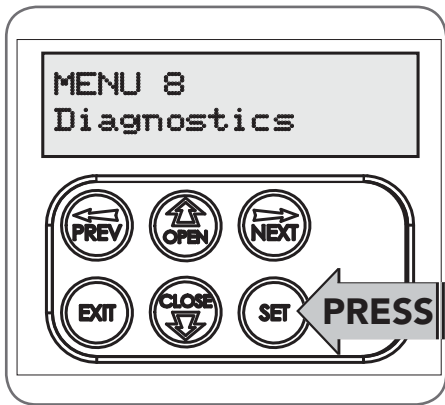

Fig D.1
- Press PREV to navigate to Menu 8 (Fig. D.1).